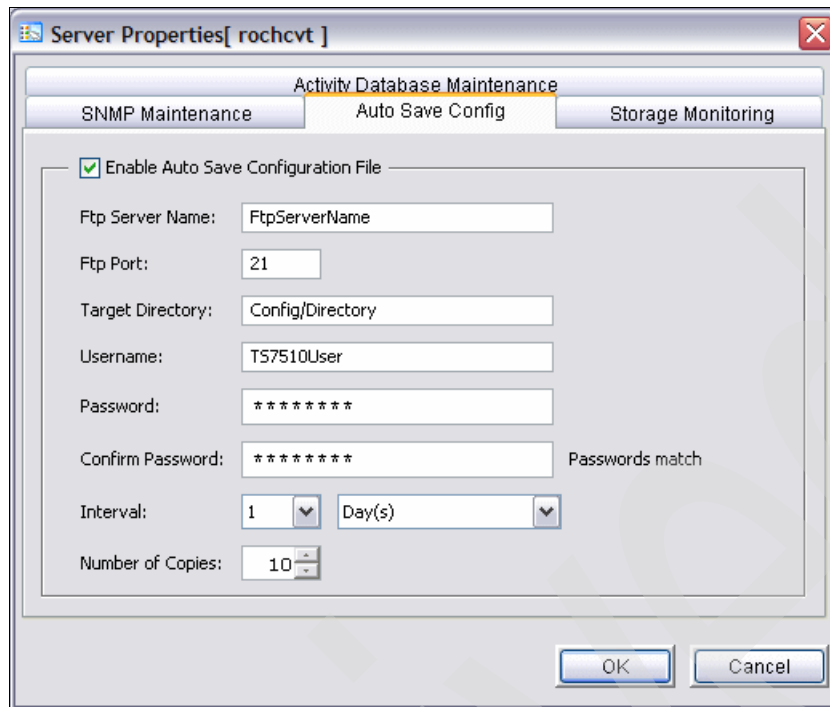

Figure 5-71 Auto Save Config Property
2. Select the **Auto Save Config** tab and enter information about the replication. See Figure 5-71 for an example.